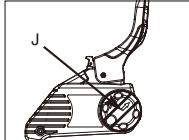
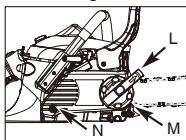

Fig. 3F
Fig. 3G
10. Turn the knob (J) COUNTERCLOCKWISE until the TANG (K) is to the end of its travel. (Fig. 3F)
12. Lock the screw (N) be tight, and follow step 13 to adjust the chain tension.
13. Turn the tension ring clockwise tight (M); pull the control button by arrow direction (L) to turn tightly be clockwise then push the control button back. (Fig.3G)